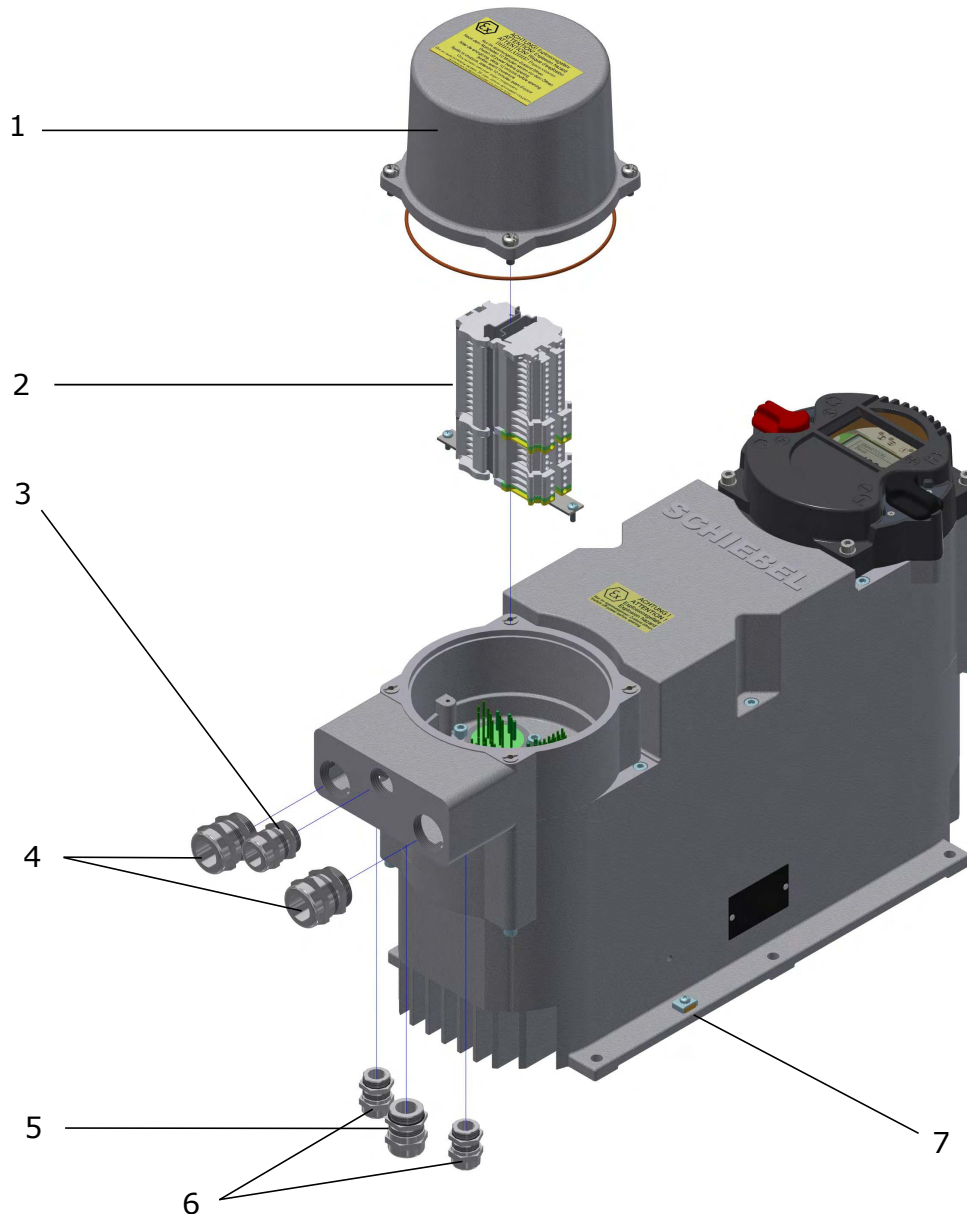

Figure 3: Connection Ex-version
- For **Ex-design** or on sepcial order, the connection is made with terminals! (see Figure 3): The maximum conductor cross-section for the control signals is 2.5 mm and 4mm² for the power connection